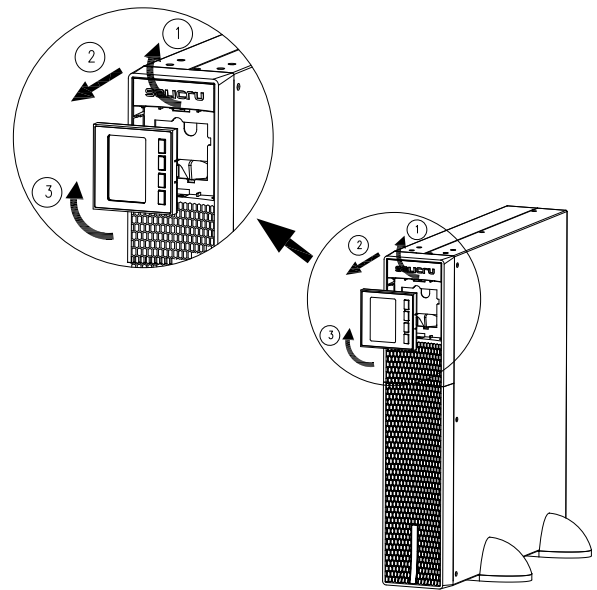

Fig. 7. Rotation of the control panel with LCD on the plastic front trim.
- To facilitate the reading of messages on the display when the device is installed vertically, it is possible to rotate the control panel clockwise by 90° (see Fig. 7).